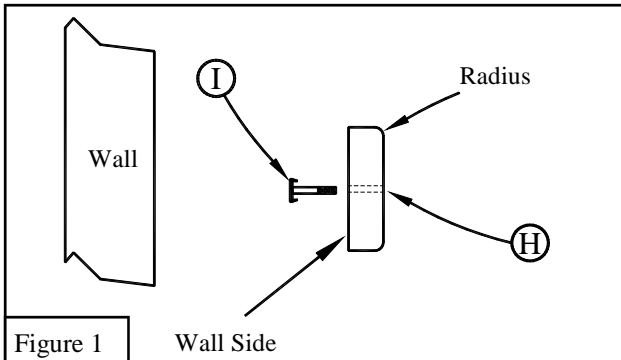

Figure 1
1. Install the *Flange Elevator Bolts* (I) into the backside of the *Wall Boards* (H). Use a hammer to seat bolts into the hole. See Figure 1.